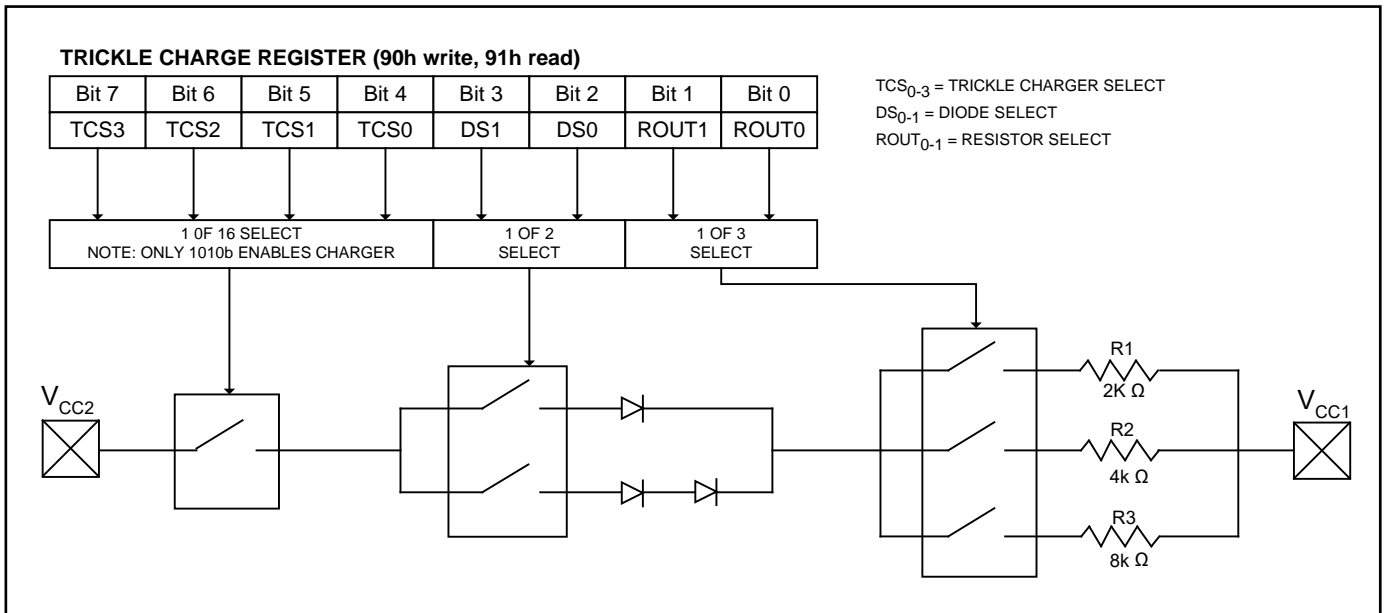

Figure 8-4. Programmable Trickle Charger
This register controls the trickle-charge characteristics of the CJ1302. The simplified schematic of Figure 8-4 shows the basic components of the trickle charger. The trickle-charge select (TCS) bits (bits 4 to 7) control the selection of the trickle charger. To prevent accidental enabling, only a pattern of 1010 enables the trickle charger. All other patterns will disable the trickle charger. The CJ1302 powers up with the trickle charger disabled. The diode select (DS) bits (bits 2 and 3) select whether one diode or two diodes are connected between  $V_{CC2}$  and  $V_{CC1}$ . If DS is 01, one diode is selected or if DS is 10, two diodes are selected. If DS is 00 or 11, the trickle charger is disabled independently of TCS. The RS bits (bits 0 and 1) select the resistor that is connected between  $V_{CC2}$  and  $V_{CC1}$ . The resistor and diodes are selected by the RS and DS bits as shown in Table 8-3.